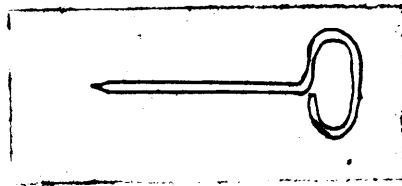
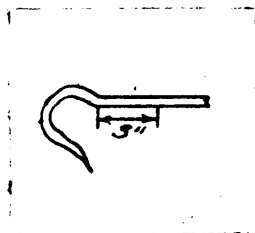

Figure 4.
Figure 5.
5. Complete the bend of the handle as in Figure 4. In doing this the end will not always meet the stem on the right plane. If too short or too long you can enlarge or make smaller the handle. (Figure 5).
6. This part should have a dip in order that it will enable you to obtain a better hold on the object. Mark 3" from the handle, heat and bend at this point. Then complete the bend of the hook. Always let the point bend slightly outward in order that it will grasp easier. (Figure 5).